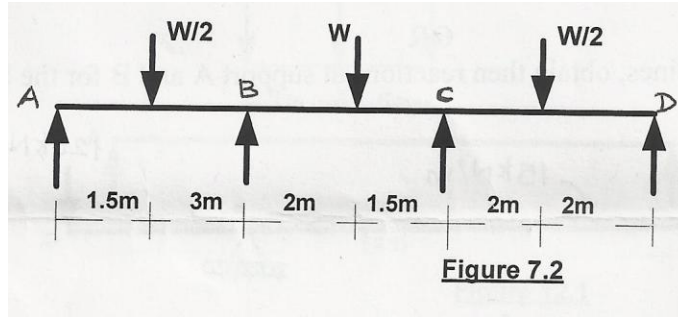

Figure 7.2
c) A continuous beam ABCD is loaded as shown in Figure 7.2. Find the collapse load. (7)